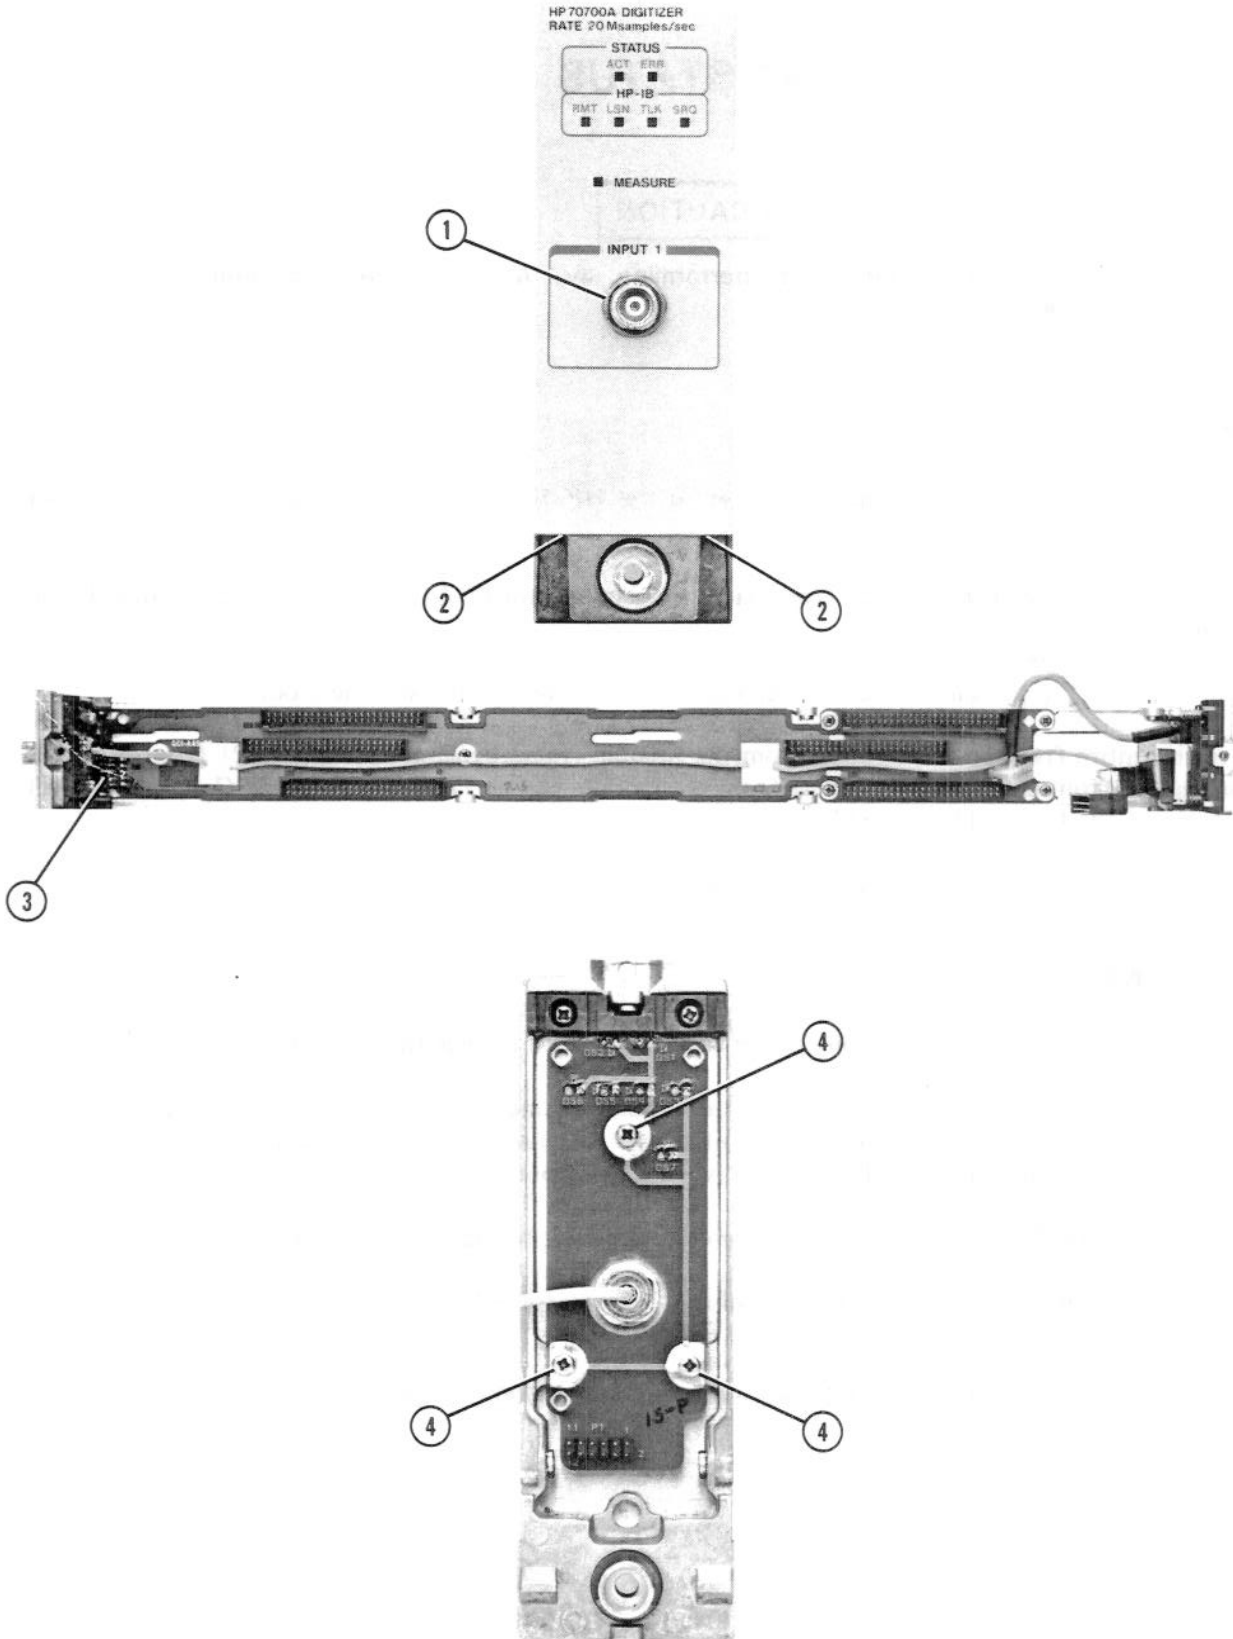

Figure 5-5. A1 Status Replacement
2. Remove the nut and washer from the front-panel BNC connector (1) by using a 9/16-inch torque driver. See Figure 5-5.
3. Remove two screws (2) from the front-panel assembly to disconnect it from the module frame.
4. Remove the entire front-panel assembly from the module frame by disconnecting A1P1 from A2J1 (3) and pulling the front-panel assembly away from the module frame. The front-panel BNC connector will also slip out of the front-panel assembly.
5. Remove three screws (4) from the A1 Status board assembly to remove it from the front frame.